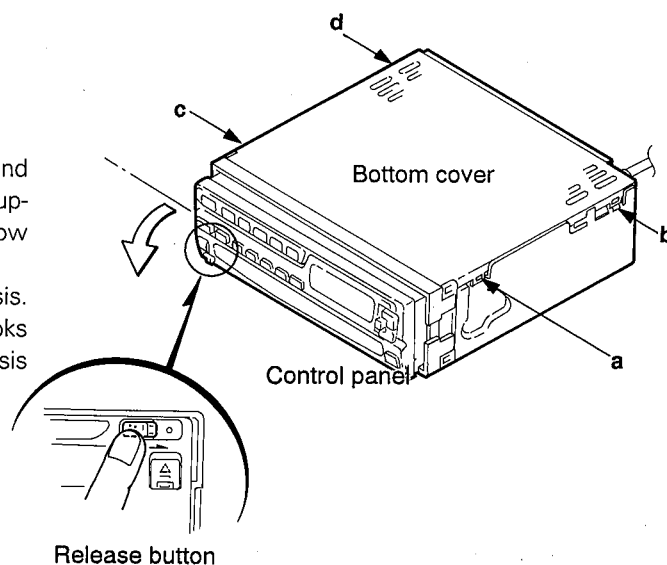

Fig. 6-2
■ Removal of front chassis (Figs. 6-2, 6-3)